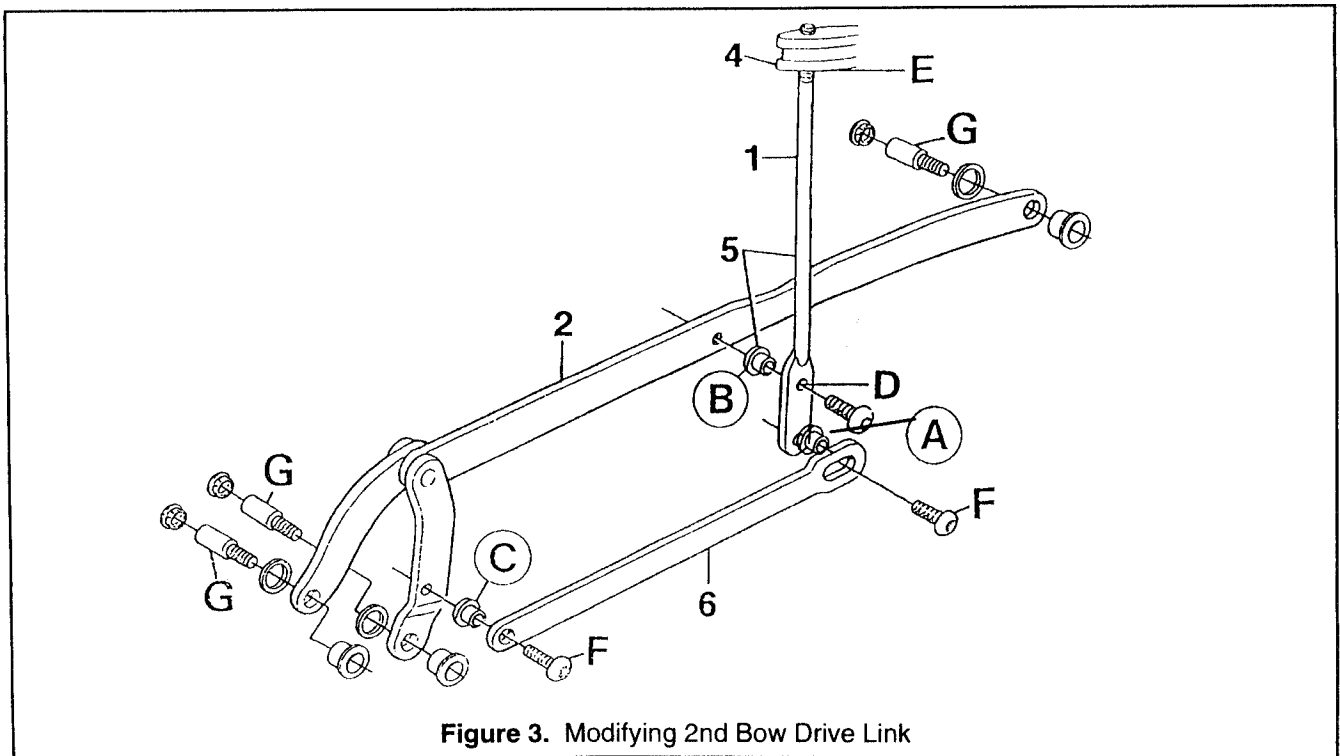

Figure 3. Modifying 2nd Bow Drive Link
1. Remove the screw securing the threaded rod to the intermediate link. Measure the distance between the center of screw hole D (see Figure) and the bottom edge E of the second bow (see Figure 3). Make a note of this distance and remove the threaded rod.